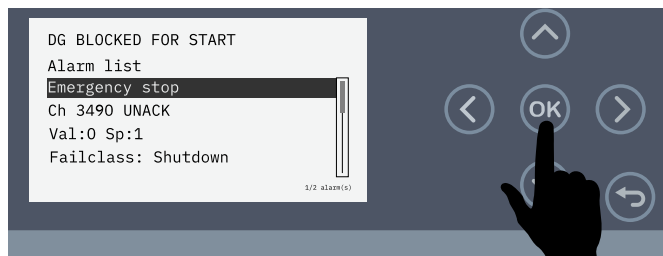

Figure 150. Alarm Acknowledgment
3. To acknowledge an alarm, select the alarm and press the **OK button** (Figure 150).